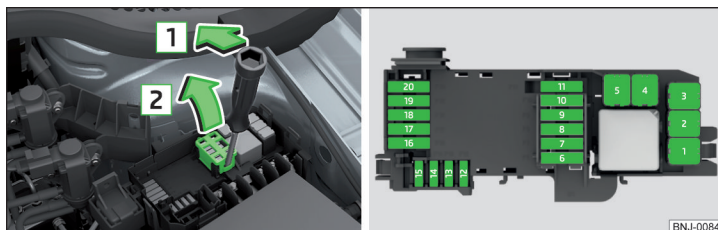

Fig. 181 Fitting and removing fuses / fuses
- Release the cover of the fuses in the direction of arrow 1 » Fig. 181 with the screwdriver in the tool kit » page 168.